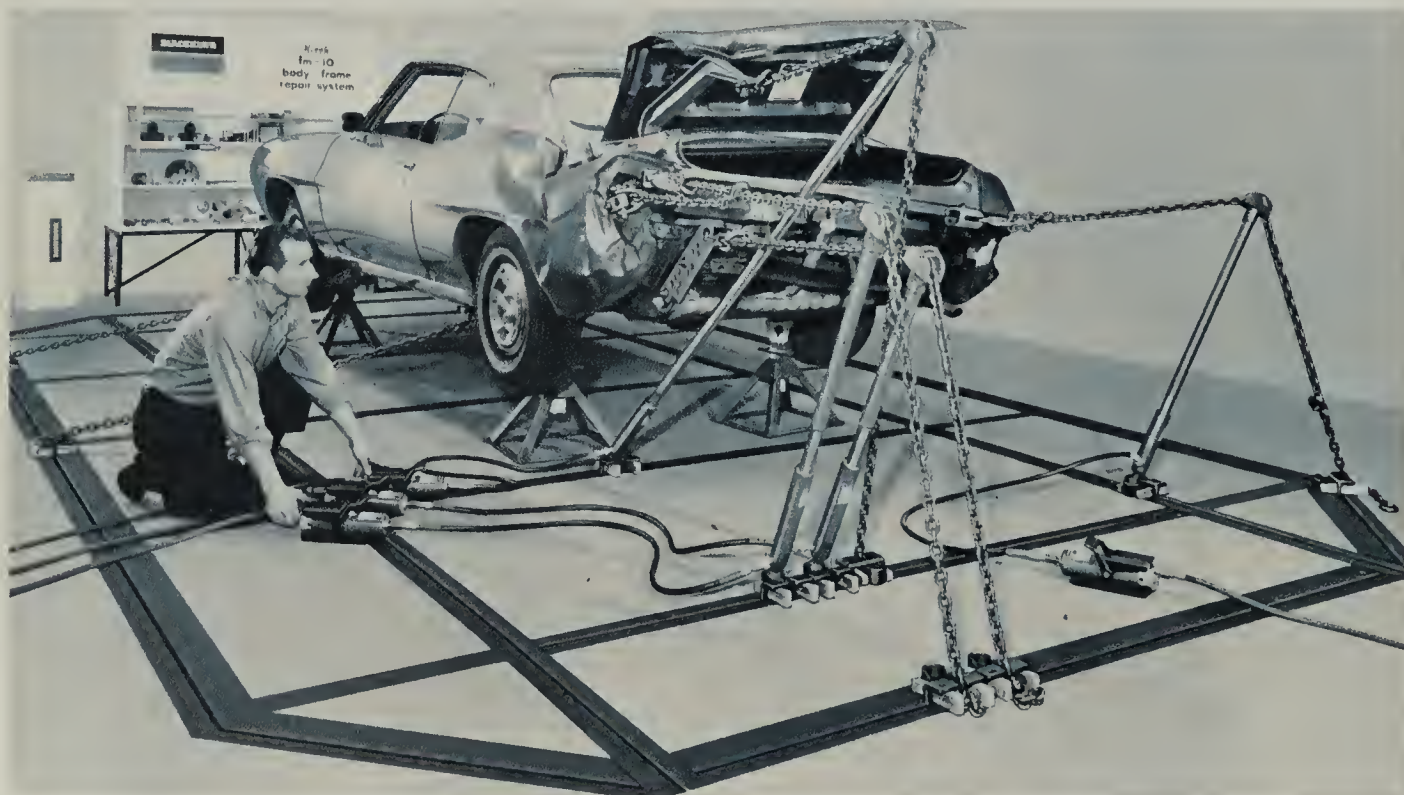

Fig. 8-17. Korek setup of four different pulls to straighten rear end damage.
3. Rail or floor type. In rail applications, rails are placed in the floor and equipment is attached to rails at any convenient point, Figs. 8-17 and 8-18. In floor applications, pot holes are installed in floor to form anchor points for straightening equipment, Fig. 8-19.
A recently developed system for straightening autobodies and frames uses a flat reference plane consisting of specially designed steel members set into the floor of the shop, Fig. 8-17. These members provide firm anchorage for necessary pushing and pulling required to straighten damaged areas of the
Fig. 8-17 shows four different pulls being placed on a car that was struck in the left rear. Note that three of the pulls are hori-